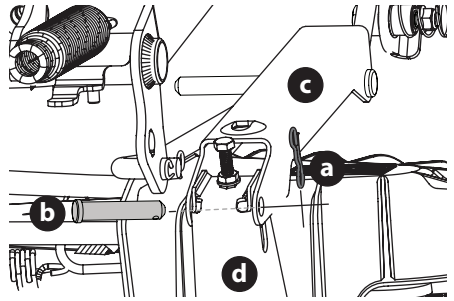

Fig. 40
- Remove the two bow-tie pins (a) from the clevis pins (b) that secure the lift link brackets (c) to the rear deck lift brackets (d) on the deck. Remove the clevis pins (b) (Fig. 40).